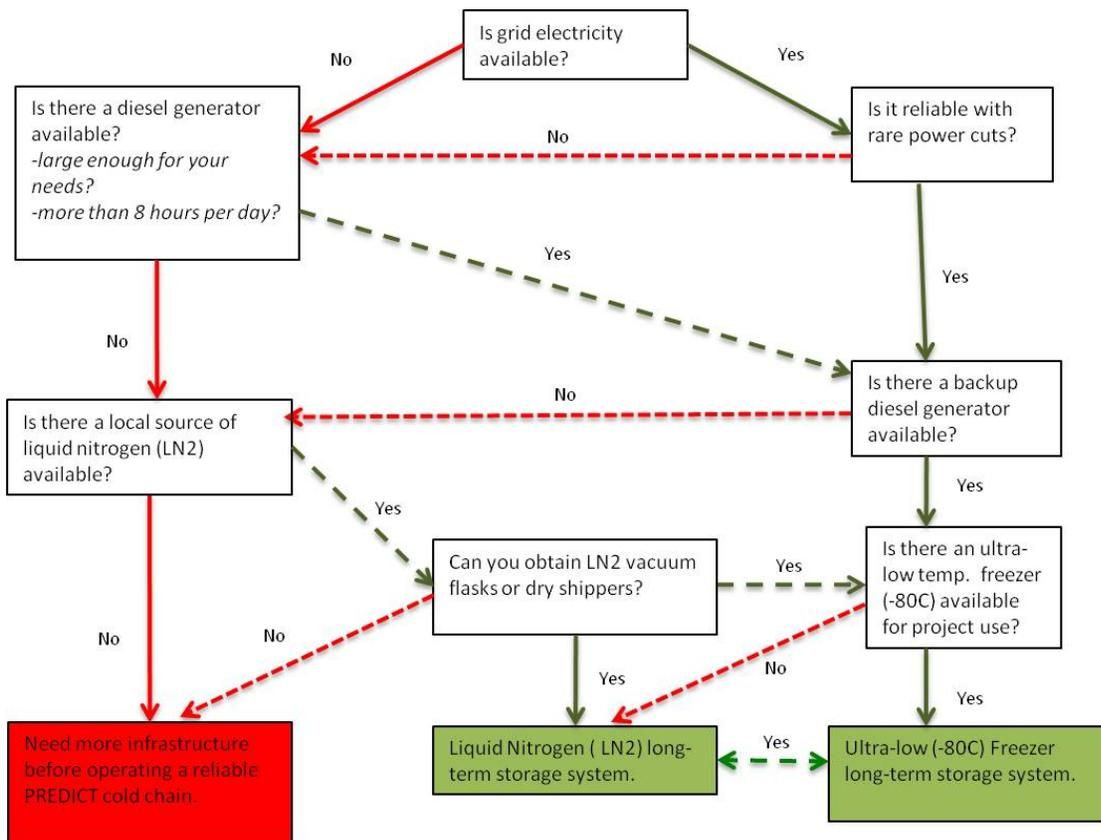

Figure 2: A decision tree for cold chain planning. Based on United Nations World Food Program Logistics Cluster “Logistics Operational Guide”.
3. Determine where the cold chain ends. If your field team delivers samples to a laboratory with an ultra low temperature freezer, then initiating your cold chain may require simply extending it from laboratory to sampling site through the use of LN2 dry-shippers or dewars. If you are developing a cold chain without any pre-existing infrastructure, mapping out an appropriate cold chain from sample collection to endpoint is essential (Figure 2).